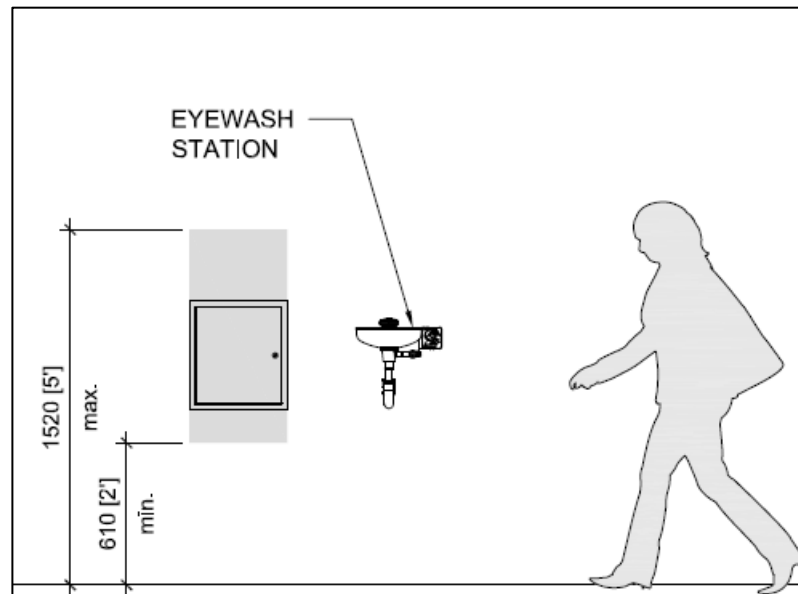

Figure 22 45 00 – 1 Temperature Mixing Valve Placement
- v. See Figure: 22 45 00 – 1 Temperature Mixing Valve Placement.